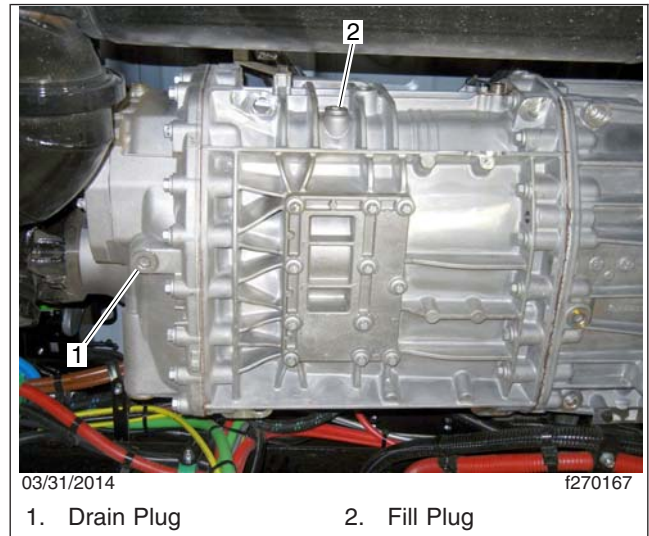

Fig. 1, Drain and Fill Plugs, Detroit Automated Transmissions
2. Clean the area around the fill plug, then remove it from the side of the gear case. Remove the drain plug from the bottom of the case. See Fig. 1.